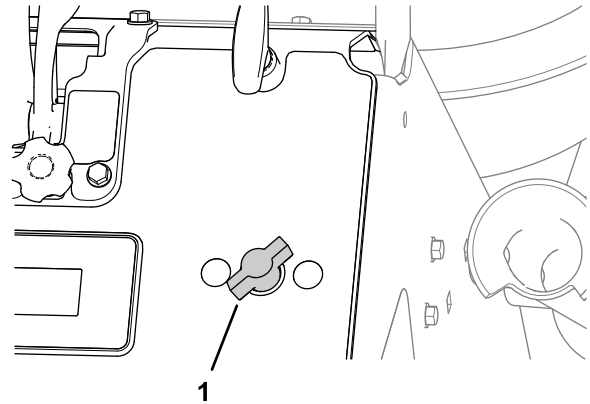

Figure 60
- To increase the pump pressure to the wand, rotate the wand-pressure control counterclockwise (Figure 60).
- To decrease pressure to the wand, rotate the wand-pressure control clockwise direction (Figure 60).
- To shut off the pressure to the wand, rotate the wand-pressure control clockwise until the valve for the control is closed (Figure 60).
6. Rotate the sprayer-wand pressure control clockwise to the OFF position (Figure 60).